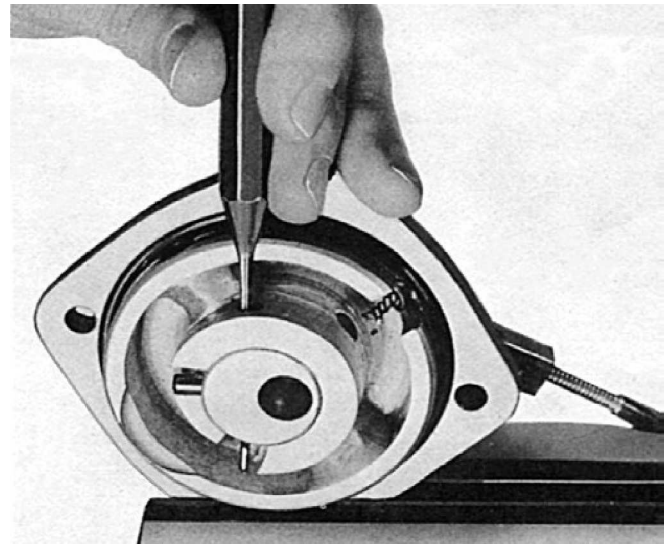

Fig. 22.
1. Knock out the tension pin (64, Fig. 57), see Fig. 22, and pull out the pin (65). Remove the locking wire (60), the spring (59) and the ball (58) and pull out the eccentric plunger (55). Remove the sealing ring (63).